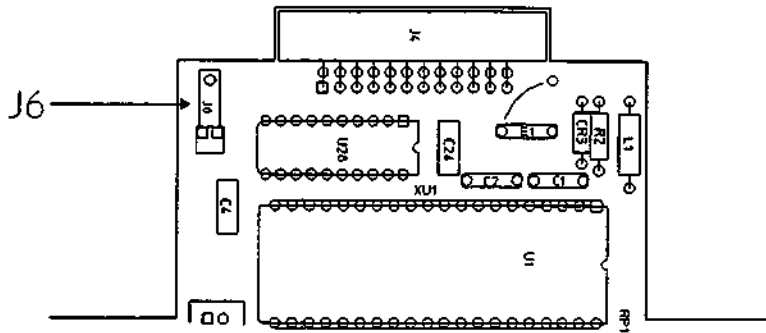
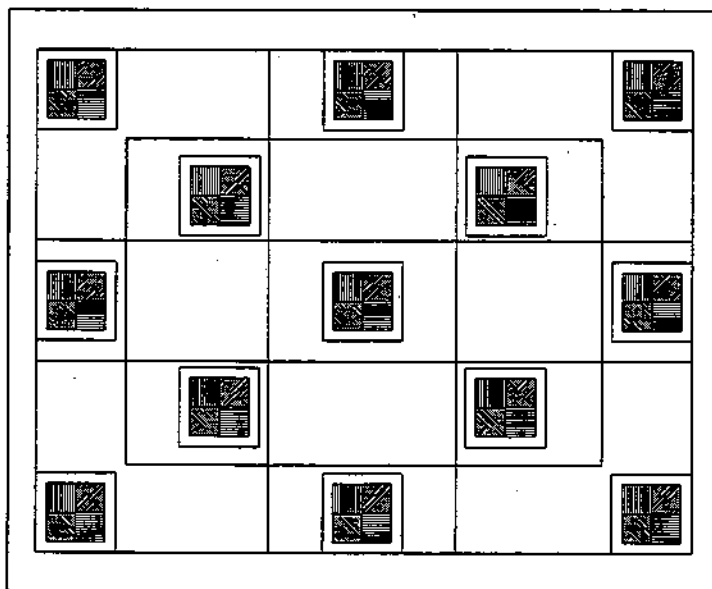

Figure 5-26. A82 Locator for Final Focus Adjustments
Figure 5-27. Focus Adjustment Test Pattern
- p. Short A82 J6 (see figure 5-26), accessible from the rear of the display, to display the focus test pattern (figure 5-27). Jumper A81 E3 may be removed and used to short A82J6.